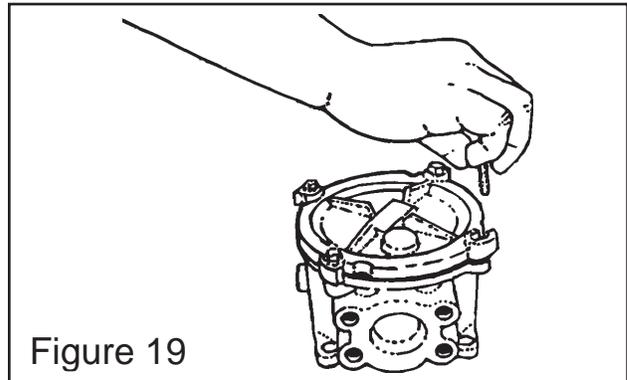
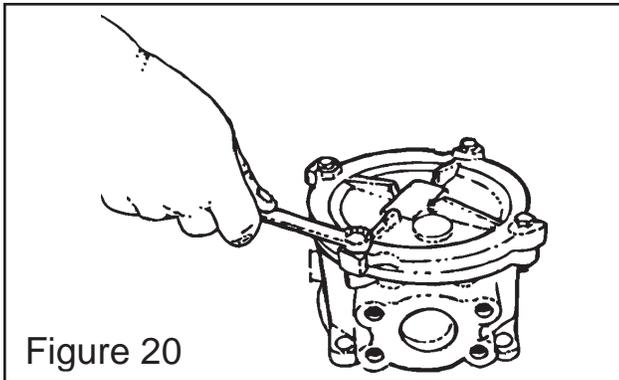

Figure 19
Figure 20
6. Replace bolt in filter cover and tighten the 4 bolts. Replace the one bolt that was removed previously. (See figure 19) tighten the four bolts in increments until the cover is seated evenly all the way around, do not force cover down with bolts if it offers resistance. Tighten the bolts in an even manner. (See Figure 20)